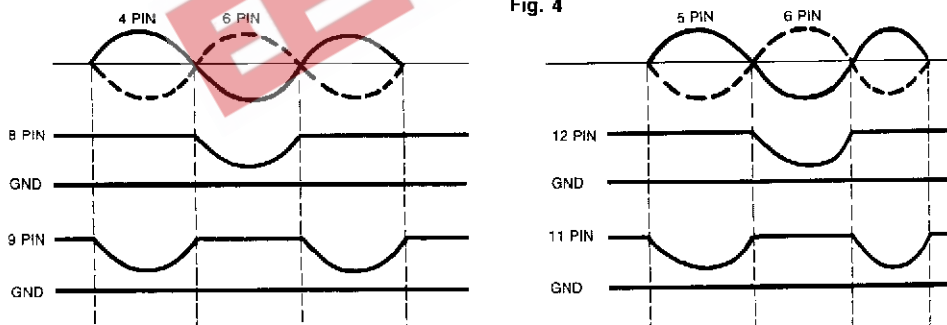

Fig. 5
1. The signal generated from a hall device is amplified by a hall amplifier, the gain of which can be varied by Pin 2 input current (speed control input). The signal passes through the rotation direction switching circuit and is supplied to the driver circuit. Since the gain of the driver circuit is constant, the output current is determined by the hall input voltage level and Pin 2 input current. Therefore, the motor rotation can be held constant by detecting it with FG, F-I converting this FG output, and feedbacking to Pin 2. (Fig. 5)